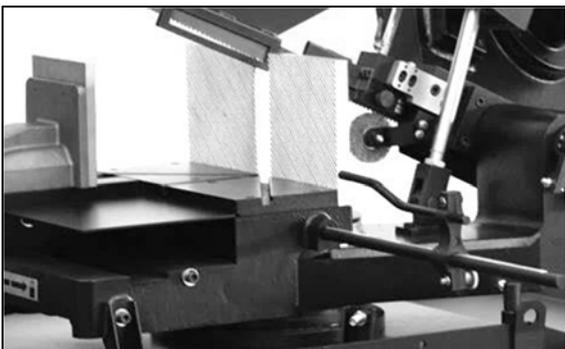

Figure 6-4: Material Stop
The material stop (Fig. 6-4) is used for series production.
- Loosen the lock knob (N, Fig 6-4)
- Grab by the handle (M) to adjust.